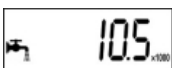

Fig.1
- Fig. 1: "consumed" reserve, 100 litres remaining